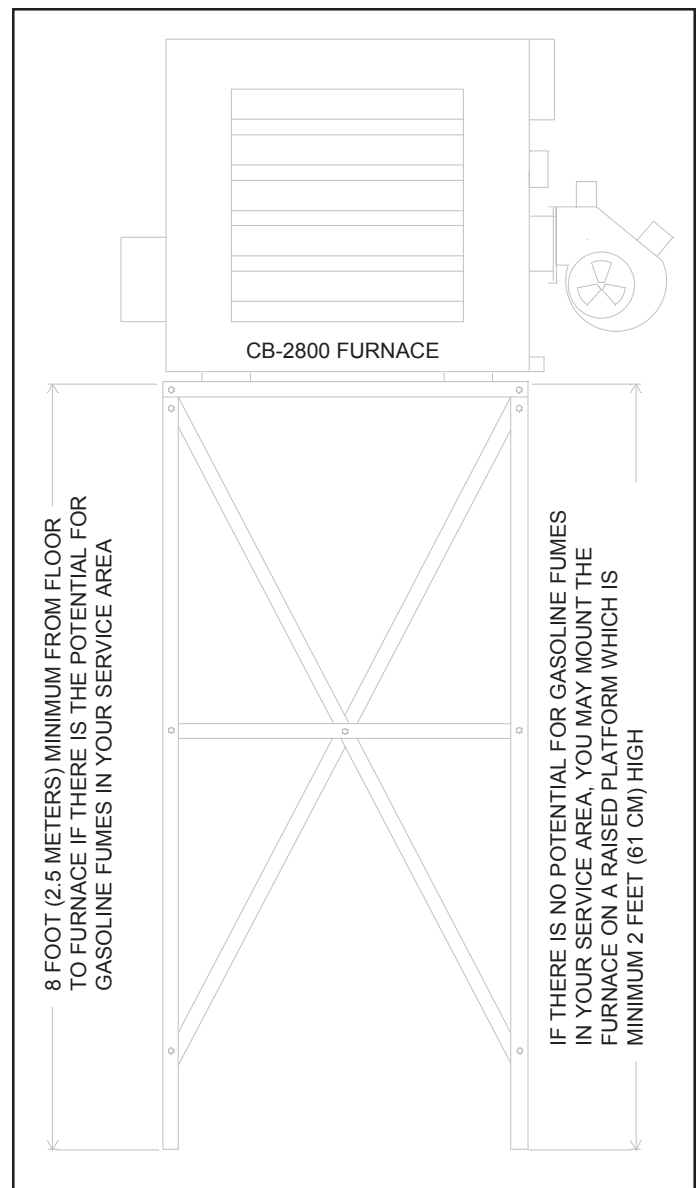

FIGURE 4C - Furnace Installed on Raised Platform
1. Refer to Figure 4C and follow the instructions as provided in the diagram.